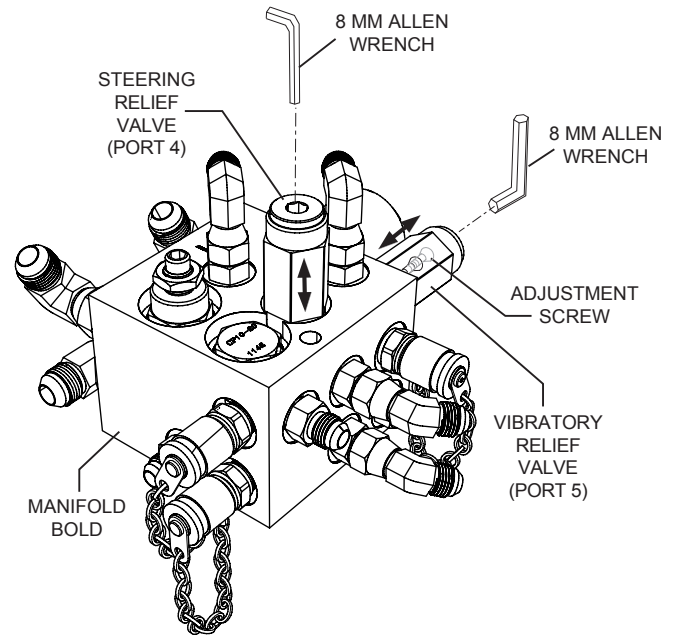

**Figure 31. Manifold Test Ports**
6. On the manifold block, install a 5,000 psi pressure gauge (Figure 31) to the forward pressure quick disconnect test port 2.
1. On the manifold block, install a 5,000 psi pressure gauge into quick disconnect test port 1 (Figure 31).